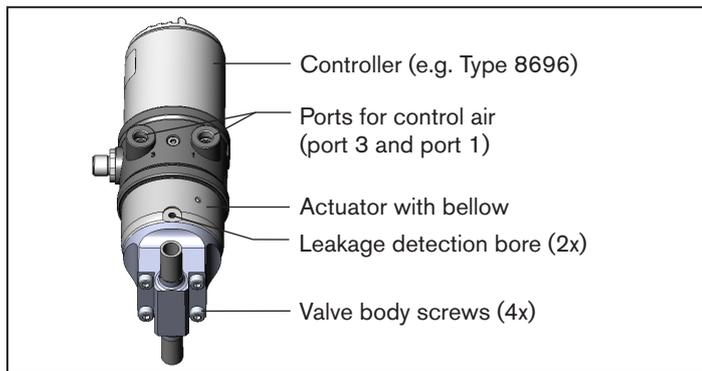

Fig. 6: Installation of welded connections
- Valves with control function A (NC) should be opened before removal: how to open the valve - see description in chapter „12.3. Replacement of the bellow“ at page 20.
- Remove actuator with bellow by loosening the 4 valve body screws - see „Fig. 6“. Keep the controller assembled to the actuator.